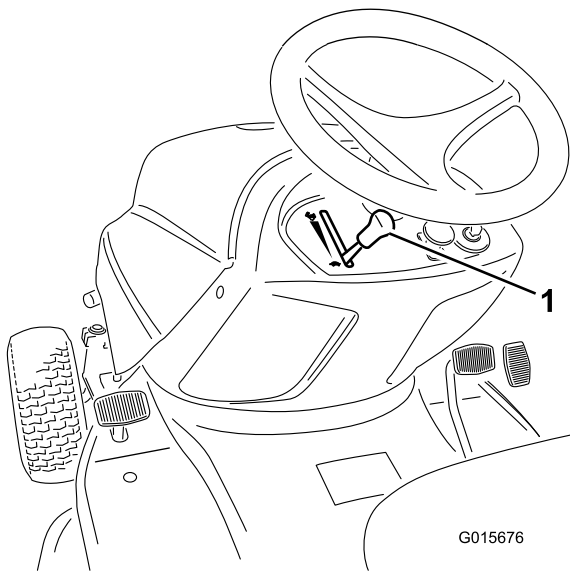

Figure 10
5. When starting a cold engine, shift the throttle control lever to the Choke (all the way up) position (Figure 10).
1. Move the throttle control lever to the Slow (turtle) position (Figure 10).
6. Shift the throttle control lever to the Slow (turtle) position (Figure 10).